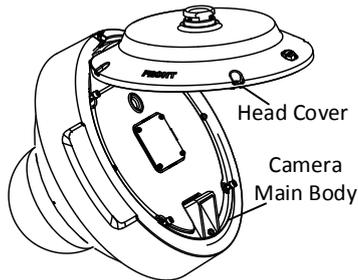

Figure 1-12 Head Cover of PanoVu Camera
4. Separate the head cover from the camera main body, as shown in Figure 1-12.